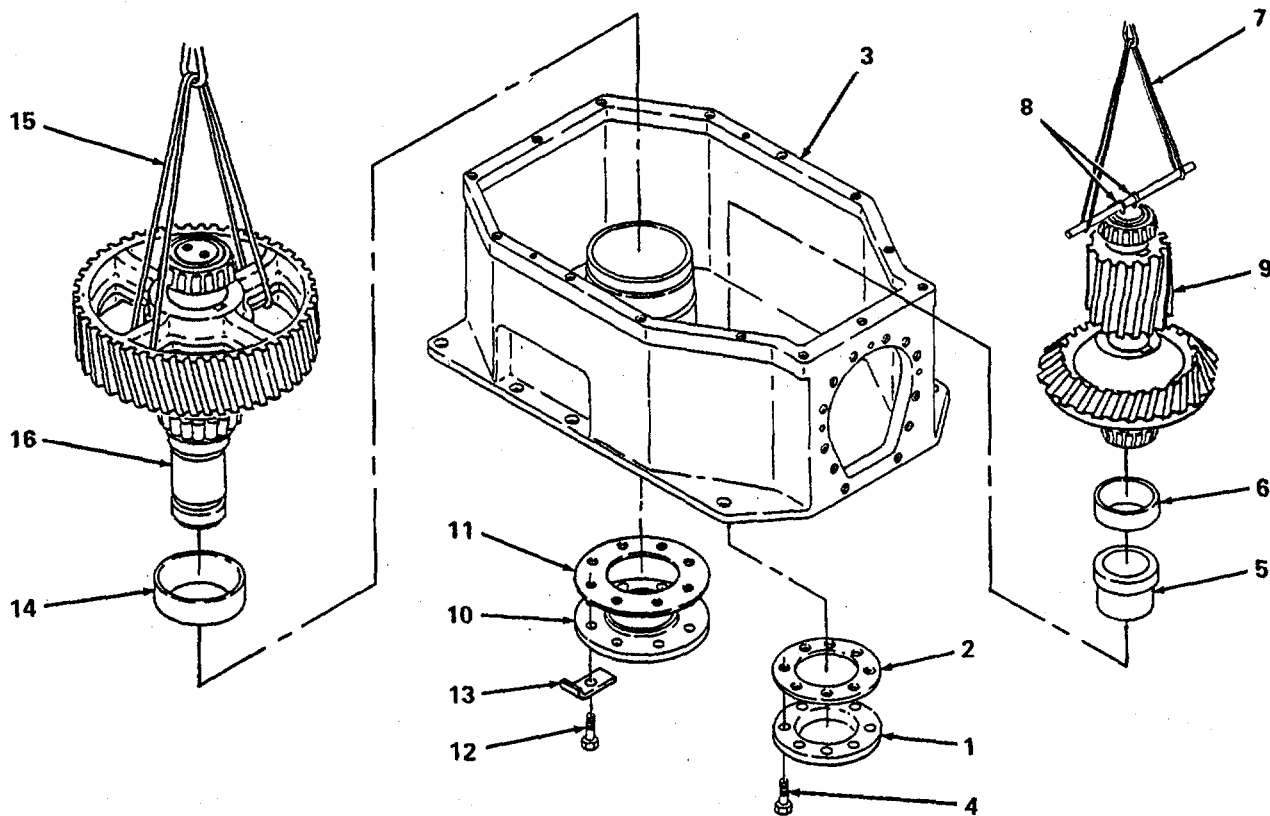

Figure 6-18. Installation of Intermediate and Low Speed Shaft Assemblies.
(3) Install intermediate shaft assembly in housing.
(a) Position lower end cover (1, figure 6-18) with new shims (2), on housing (3) and install eight screws (4).